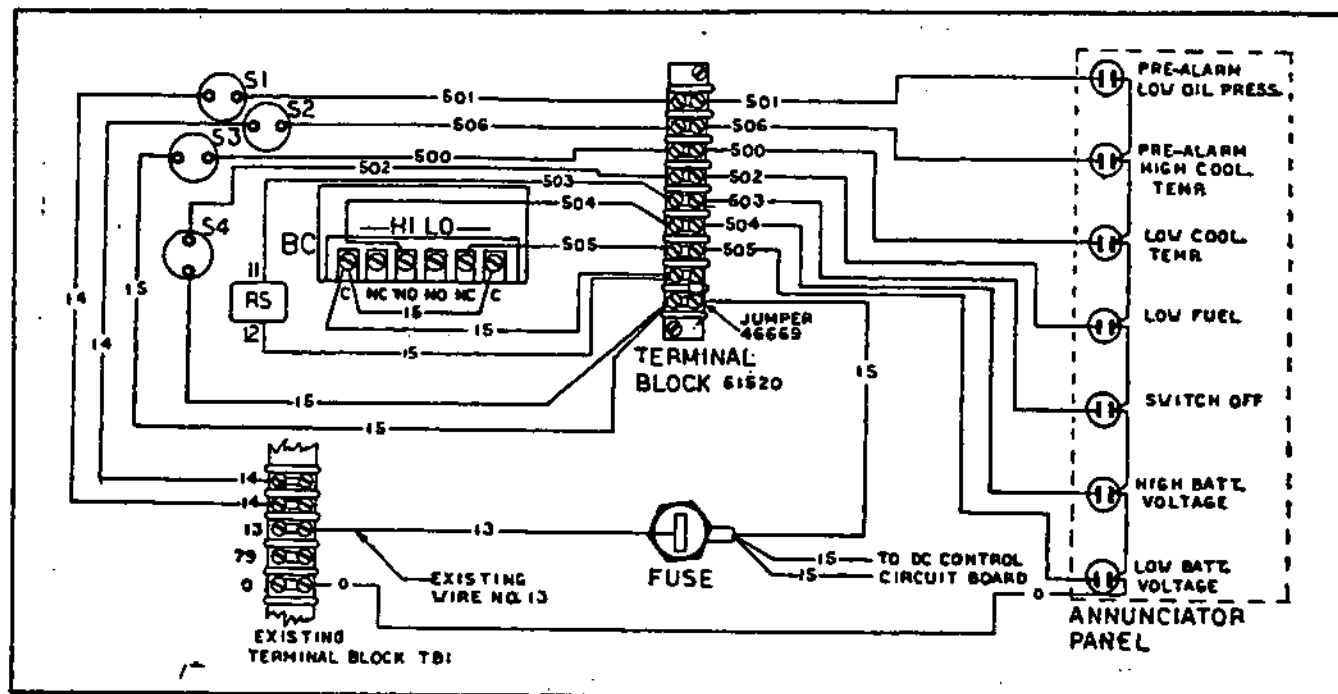

Figure 3.8-B. Optional Annunciator Panel Wiring Diagram
3.8.4- LOW COOLANT TEMPERATURE ADVISORY LIGHT (Figure 3.8-A, 3.8-B)
3.8.5- LOW FUEL ADVISORY LIGHT (Figure 3.8-A, 3.8-B)